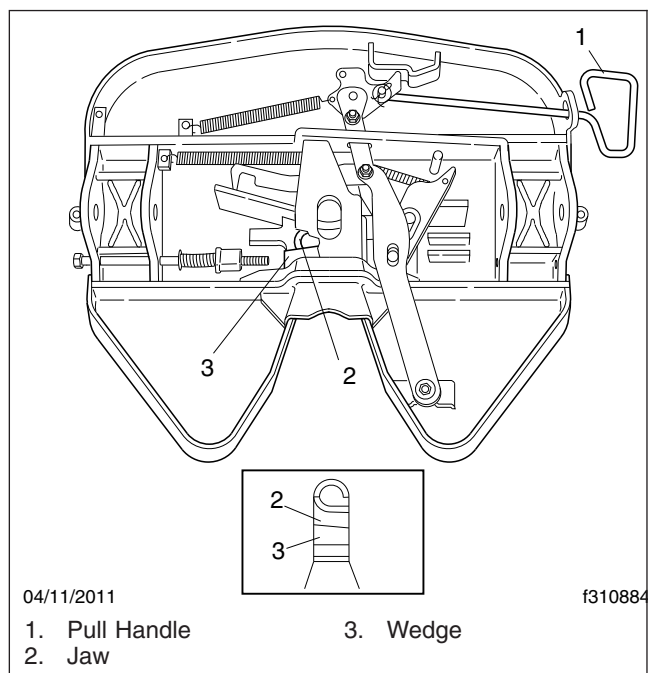

Fig. 8, Fontaine Fifth Wheel
3. Lubricate the fifth wheel prior to opening and closing it. Separate the jaw and wedge with a screwdriver, and grease the full length of their mating surfaces. Lubricate the top and bottom contact surfaces of the jaw and wedge. See Fig. 8. Open and close the fifth wheel several times to further distribute the grease.